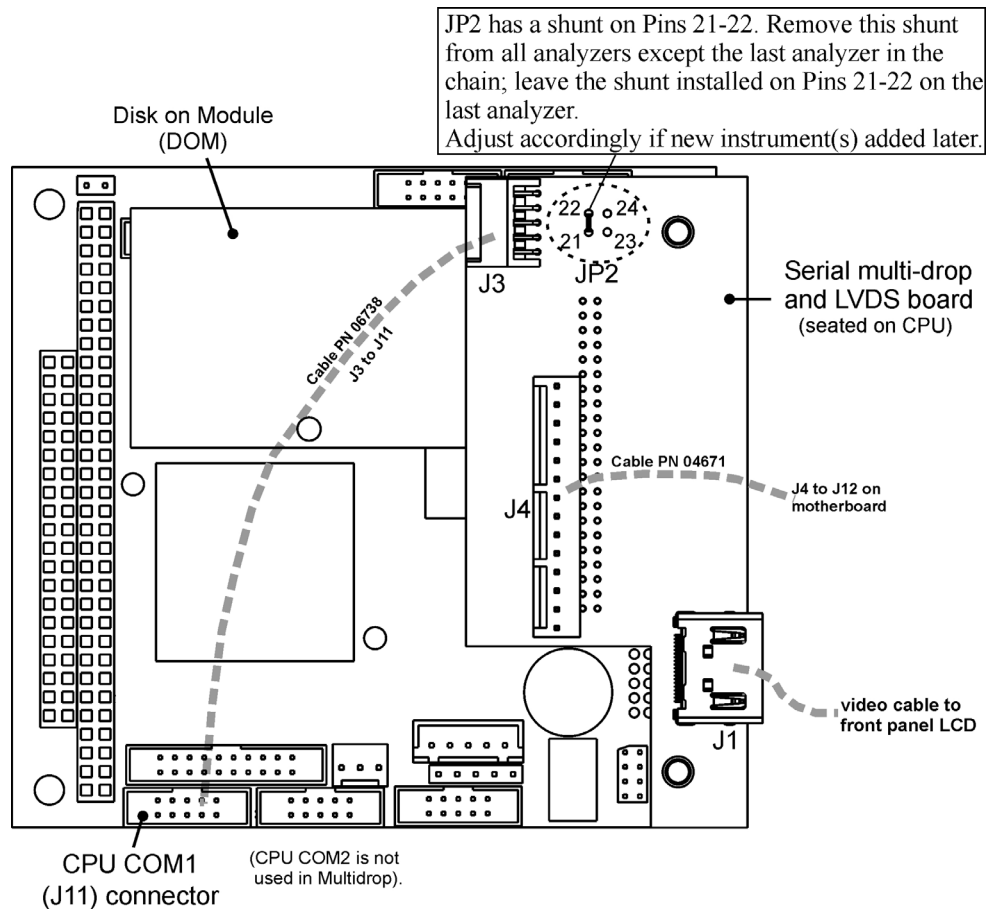

Figure 2-12. Jumper and Cables for Multidrop Mode
In each instrument with the Multidrop option there is a shunt jumpering two pins on the serial Multidrop and LVDS printed circuit assembly (PCA), as shown in Figure 2-12. This shunt must be removed from all instruments except that designated as last in the multidrop chain, which must remain terminated. This requires powering off and opening each instrument and making the following adjustments:
3. Check that the following cable connections are made in *all* instruments (again refer to Figure 2-12):